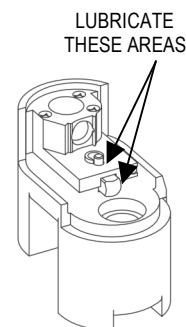

Figure 2
2. Prior to reassembly, the upper case assembly must be lubricated using a lubricant conforming to Department of Defense Specification MIL-G21164. See Figure 2 for lubrication points.